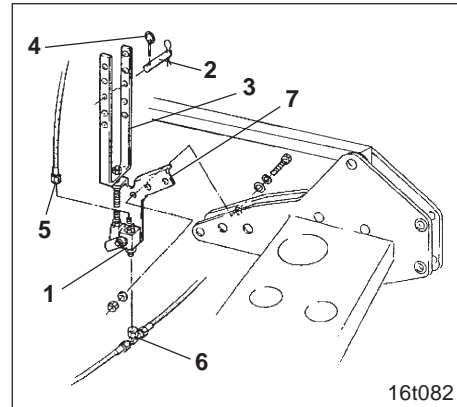

Fig. 13.7
By fitting a lifting height limiting valve (Fig. 13.7/1) the lifting height of the lifting frame can be restricted (please also refer to para. 13.5.2, restricting the lifting height of the tractor lower links).
The lifting height of the seed drill can be adjusted. To set the lifting height, insert the pin (Fig. 13.7/2) into the applicable bore of the U-bow (Fig. 13.7/3) and secure it in place by using a linch pin (Fig. 13.7/4).
- As soon as the hydraulic system has been depressurised, disconnect the hydraulic hose (Fig. 13.7/5) on the T-joint (Fig. 13.7/6).
- Bolt the valve carrier (Fig. 13.7/7) to the upper link point of the soil tillage implement.
- Attach T-joint (Fig. 13.7/6) and hydraulic hose (Fig. 13.7/5) to the valve (Fig. 13.7/1).
- Guide the hydraulic hose (Fig. 13.7/5) to the tractor and connect with a single acting control valve. By activating the control valve in the tractor cabin, pressurise the lifting frame and check the hydraulic system for leaks. If necessary eliminate any leaks